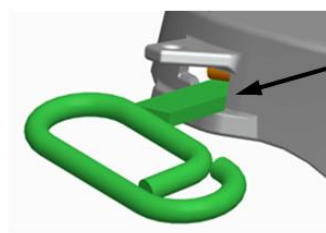

Figure 7
- C. The Third Lock must be engaged (See Figures 7 and 8).
- The Standard Release Handle must be down in the narrow lower slot (See Figure 7).